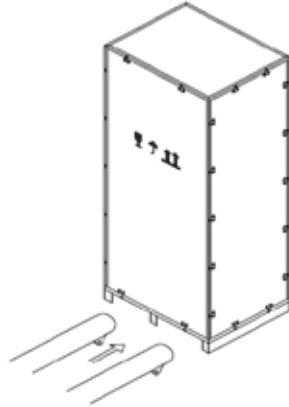

Figure 3-3 Transport to the designated site
- 2) Transport the equipment to the designated site by forklift, as shown in Figure 3-3.